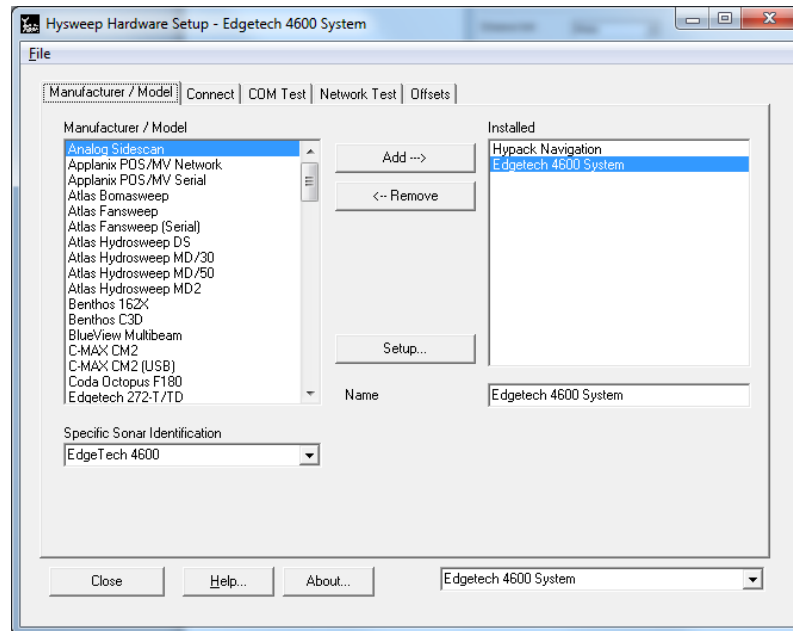
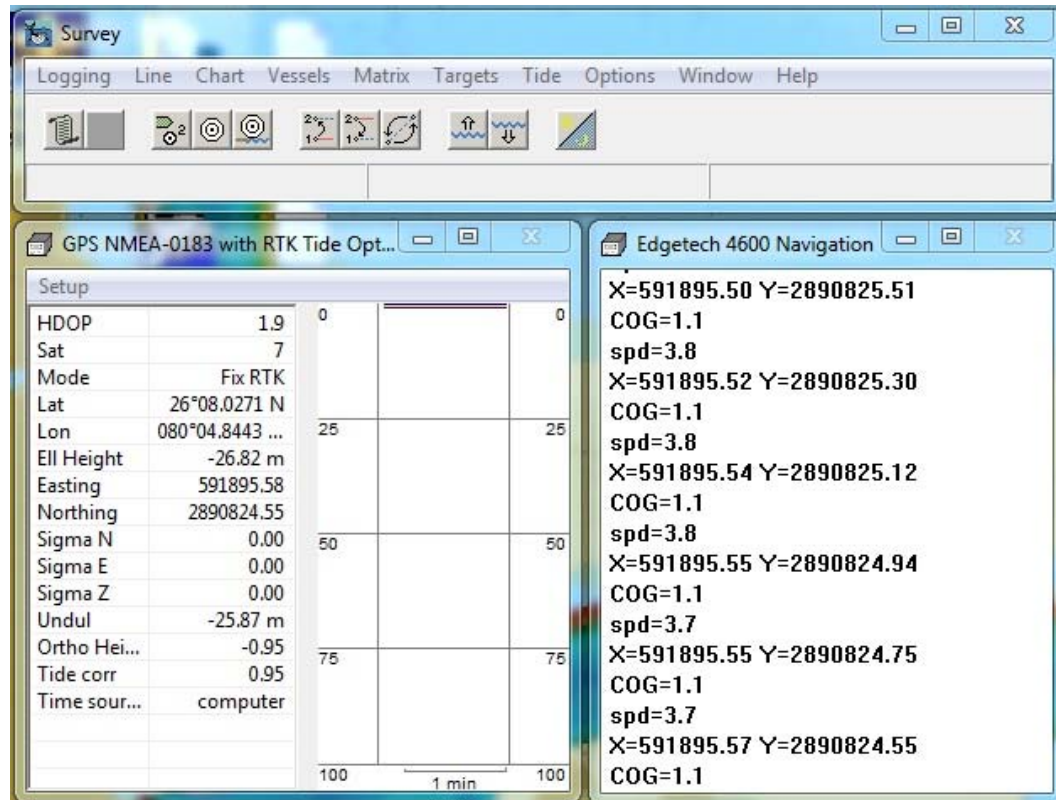
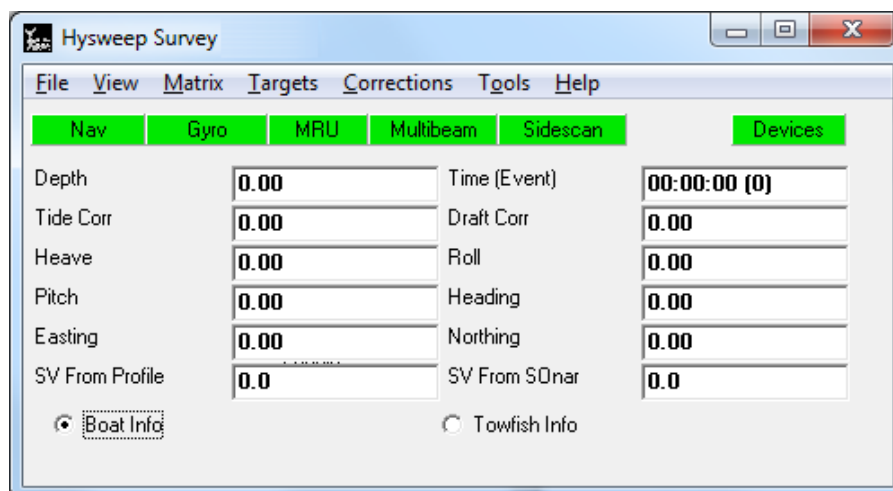

**Figure 26: Hypack Main Window (Shell)**
Figure 29: Survey and Hysweep Survey Windows – Windows 1 through 3
Figure 30: Survey and Hysweep Survey Windows – Windows 4 and 5
- a. Select **Preparation** from the top menu in the HYPACK Shell (Figure 26, circled in red) and click on **Geodesy**. This same window may be reached by choosing the Geodesy shortcut from the shortcut menu (designated by red arrow in Figure 26). The following window should appear:
- a. Under **Project Files** on the left side of the HYPACK main window (Shell, Figure 26), right click on the **Background Files** and select **Add Files**.
- a. Select **Hysweep** from the top menu of the HYPACK Shell (Figure 26, circled in red) and click on **Hysweep Hardware**. (Please refer to Figure 27 and Figure 28).
7. Select **Survey** on the top menu of the HYPACK Shell (Figure 26, circled in red) and choose **Survey and Hysweep Survey**. Five windows will appear as in Figure 29 and Figure 30: (1) *Survey*, (2) *GPS NMEA-0183 with RTK Tide Option*, (3) *Edgetech 4600 Navigation*, (4) *Hysweep Survey*, and (5) *Hysweep Interface*.
8. Before continuing, ensure all systems and inputs are green in the **Hysweep Survey** window (Figure 30, top). Green indicates that each system and input is connected properly and all devices are on. If a device is highlighted in red, DISCOVER should have already displayed a warning message. Check the connection between the device and the Topside Processor. If problems persist, please contact Customer Service using the information provided on page 46.
9. On the *Hysweep Survey* window (Figure 30, top), choose **View > Interferometry** to bring up the interferometry window.
16. On the *Hysweep Survey Window* (Figure 30, top) choose **View > Profile Window** to bring up the two-dimensional profile of the seafloor (Figure 39).